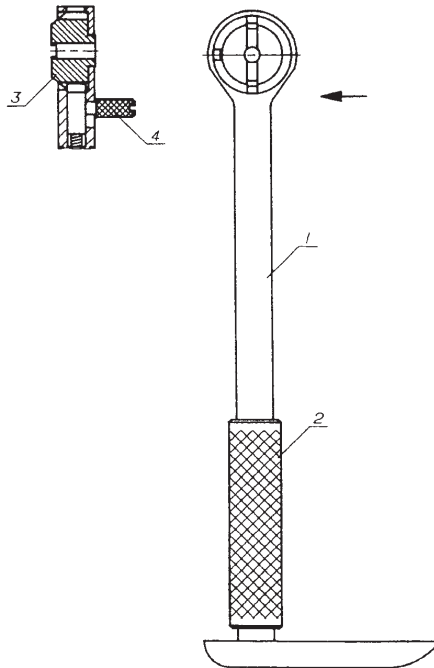

Fig. 9 – Bipod
- cartridge follower (2) – its role is to ensure that the round reaches the lips in due time - before the bolt reaches the position for gripping the round. For proper functioning of the follower it is necessary that the force of the spring of the cartridge follower mechanism is sufficient to move the round with acceleration which ensures that all the rounds travel the necessary path so that the next round reaches the magazine lips and can be pushed into the cartridge chamber;
- magazine bottom plate (3).
13. The bipod (Fig. 9) is used as a rest in firing. The bipod height can be adjusted if necessary by means of a clamping guide which fixes the bipod at the height required. The bipod has two positions: folded and extended.